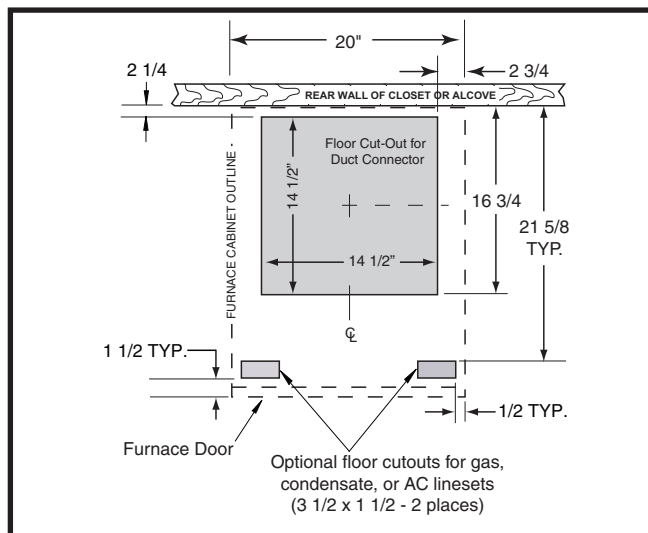
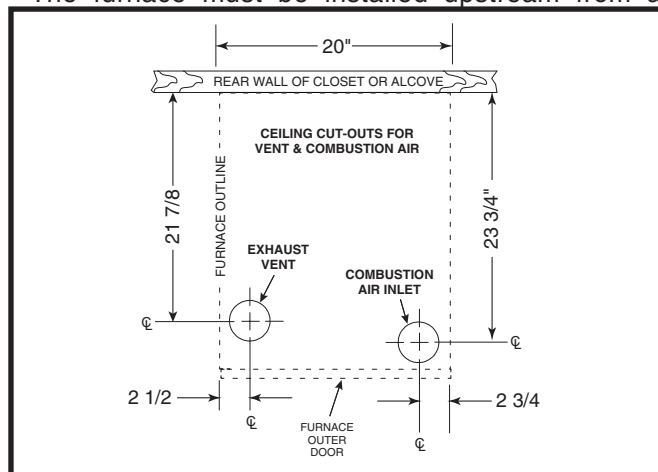

Figure 10. Floor Cutout Dimensions
Figure 11. Ceiling Cut-Out Dimensions
To locate standard ducts, see Figure 10. For round ducts, see Figure 11 (page 15).
1. Measure from the rear wall or alcove and mark the centerline of the cut-out on the floor. Using the centerline as a starting point, draw the rest of the duct cut-out to the dimensions shown in Figure 10.
5. Measure and drill gas hole and cut out for cooling coil (if applicable). See Figure 10 or Figure 11.
Cut-outs in the ceiling and roof must be carefully located to avoid misalignment of the furnace, combustion air piping, and vent piping. See Figure 10.